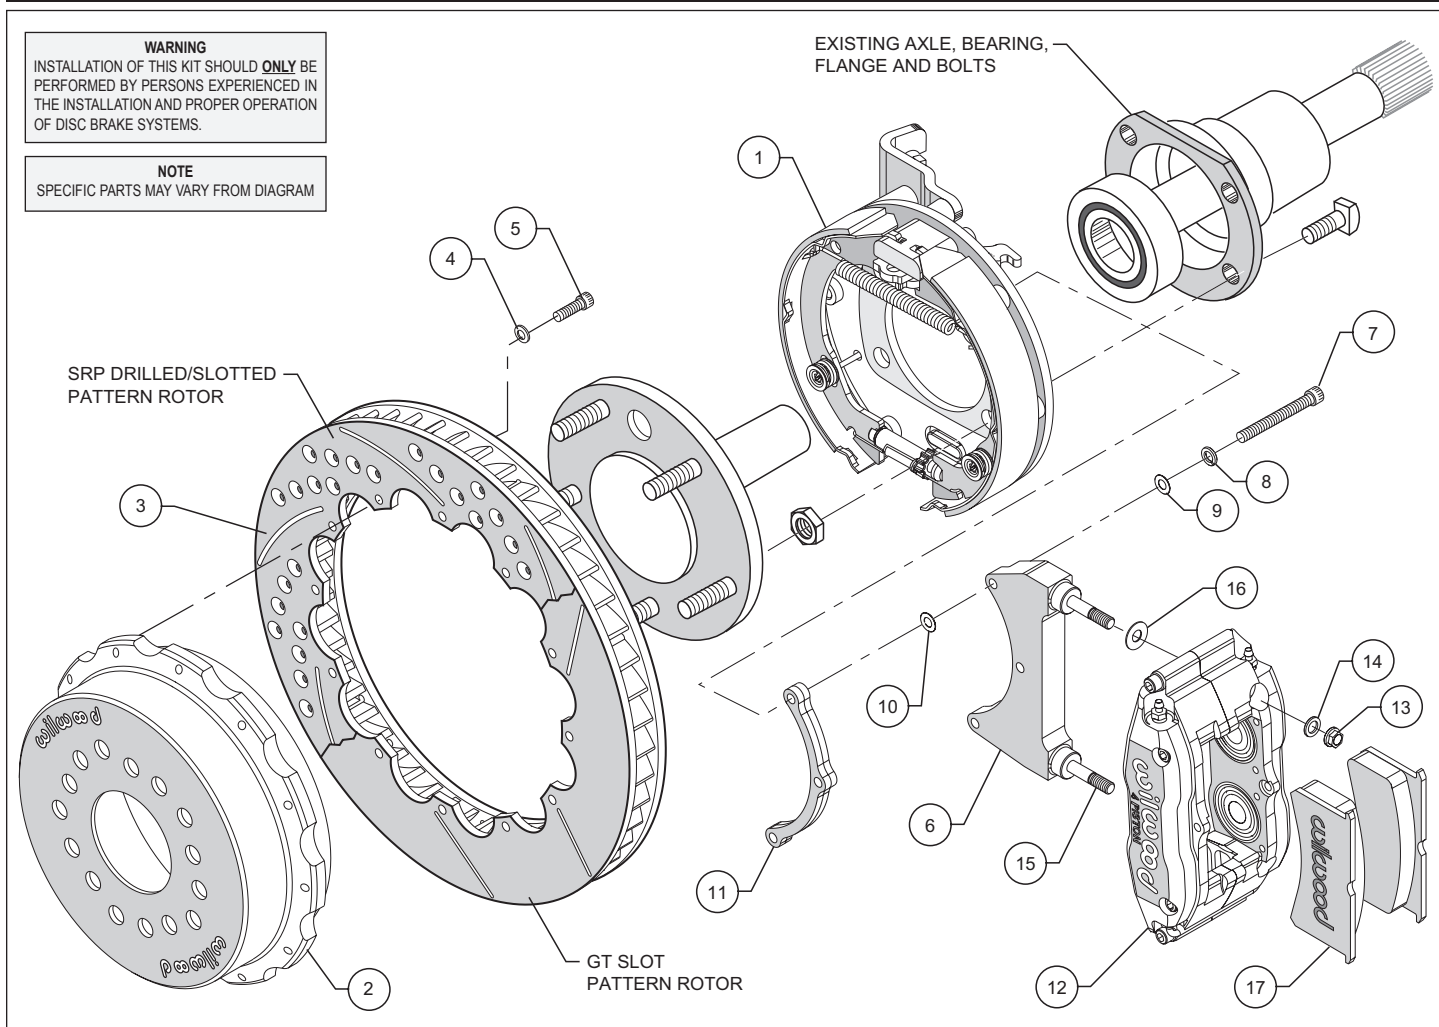
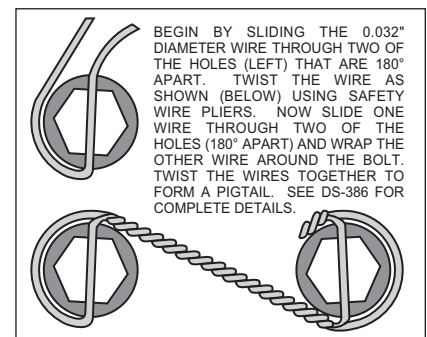

Figure 1. Typical Installation Configuration
Figure 4. Safety Wire Diagram
- Slide the bracket kit assembly (1) onto the housing flange and then insert the axle assembly through the center hole of the bracket kit assembly (1). Secure using the stock Original Equipment Manufacturer (OEM) bolts and nuts. Stock OEM hex nuts that retain the bracket kit assembly (1) should be on the wheel side of the bracket. Apply red *Loctite*® 271 to the stock OEM bolt threads and torque to OEM specifications. Make sure the bracket kit assembly (1) brake pads are FACING OUTWARD TOWARDS THE WHEEL.
- With the larger I.D. side of the rotor (3) facing away from the hat (2), bolt rotor (3) to hat (2) through the backside of the rotor using washers (4) and bolts (5). Torque bolts (5) in an alternating sequence to 103 **in-lb**. Safety wire bolts (5) using standard 0.032 inch diameter stainless steel safety wire as shown in Figure 4. Please refer to Wilwood's data sheet DS-386 (available at www.wilwood.org/ds386.pdf) for complete safety wire installation instructions.
- Align the correct hole pattern in the hat (2) with the stud pattern on the axle flange. **NOTE:** Some OEM and aftermarket axles come with stud sizes larger than 0.50" diameter. Verify stud size and have a qualified machine shop drill the hats to the correct size, if necessary. Slide the hat/rotor assembly (2 and 3) over the wheel studs covering the bracket kit assembly (1) and against the axle flange face. Check to be sure the hat seats squarely against the hub. Install a couple of lug nuts (finger tighten) to keep the rotor/hat assembly in place while continuing with the installation.
- NOTE:** Please reference the caution statement at the beginning of the assembly instructions. The caliper mounting bracket assembly (6) should be installed first with clean, dry threads on the mounting bolts (7). Install the bracket from the rear side of the bracket kit assembly (1) by sliding bolt (7) through lock washer (8), flat washer (9), bracket (6), shim washer (10) and finally through the spacer (11), see Figure 1. **NOTE:** End of bolt should not exceed inside face of insert. The bracket must tighten squarely against the back side of the bracket kit assembly (1). Inspect for interference from casting irregularities, machining ridges, burrs, etc. Use one thin shim (10) between the bracket (6) and spacer (11) during initial trial fitting.
- Install one washer (16) over each pre-installed stud (15) on the radial mount bracket (6). Slide the caliper (12) in place over the studs and rotor, then install the washer (14) and lock nut (13) to hold the caliper in place. The caliper bleed screws should be pointing up. Snug the lock nuts (13) and check that the rotor (3) is centered in the caliper (12). Add or subtract .015" shims (10) as necessary between the caliper mounting bracket (6) and the spacer (11) to center the caliper (12).
- Remove the caliper center bridge pad retainer bolt, nut, and tube from the caliper. Slide the brake pads (17) into place. They should install easily without interference. Check that the outside radius of the brake pad is aligned with the outside diameter radius of the rotor face. Add or subtract shims (16) between the caliper (12) and mount bracket (6) to gain the proper alignment. Reinstall the center bridge pad retainer tube, bolt, and locknut. The locknut should be snug without play in the bolt or tube. Be cautious not to over tighten.
- Adjust the parking brake shoes outward (using a drum shoe adjustment tool available at your local auto parts store) while spinning the hat (2) until a slight drag is felt against the hat/drum. Remove the lug nuts that were holding the hat/rotor in place. Install the wheel and lug nuts. Check to see that the wheel rotates freely without interference.
- Once all clearances have been checked, remove the wheel, caliper, hat/rotor from the bracket kit assembly (1). Secure the caliper mounting bracket (6) to the bracket kit assembly (1) using red *Loctite*® 271. Torque bolts (7) to 180 **in-lb**. Reinstall the hat/rotor assembly and again use lug nuts to hold it in place. Lubricate caliper mounting studs and nuts with lightweight oil, reinstall the caliper, torque the caliper nuts (13) to 30-35 ft-lb.